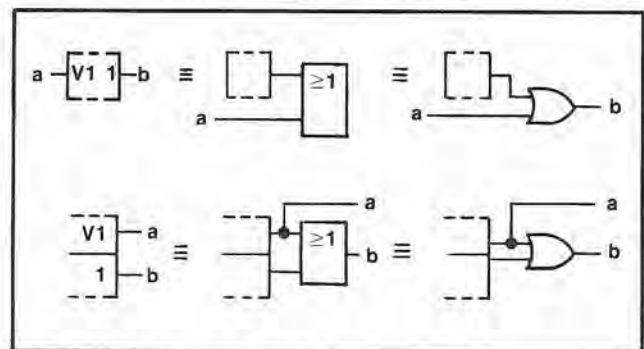

Figure 8-11. V (OR) Dependency
8-79. V (OR) DEPENDENCY. The symbol denoting OR dependency is the letter V. See Figure 8-11.